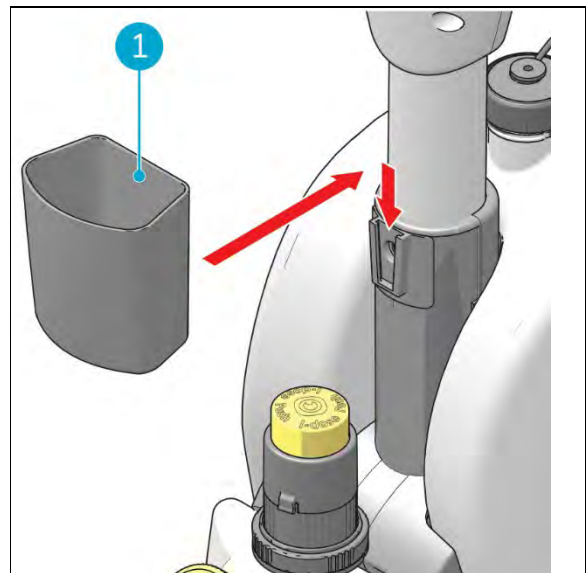

Figure 13
1. Slide the rear of the recycle bin (Figure 13, pos. 1) into the recycle bin slot.